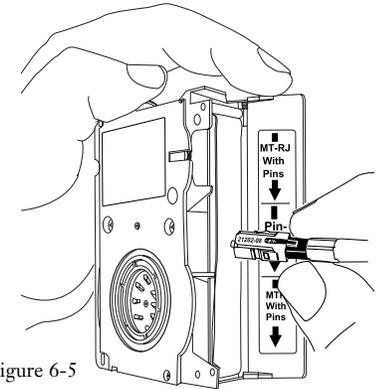

Figure 6-5
- c) Using light pressure, make two passes on the strip in the direction of the arrows on the label (Figure 6-5).